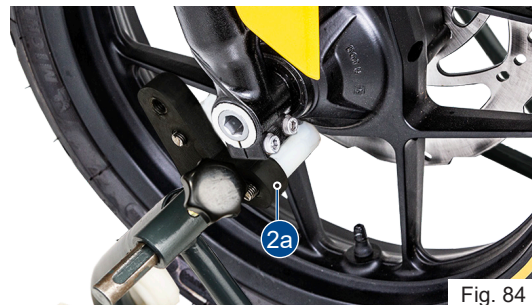

Fig. 84
- Align the two adapters (2a & 3a) so that the front forks are securely seated (ref. Fig. 84 & 85).